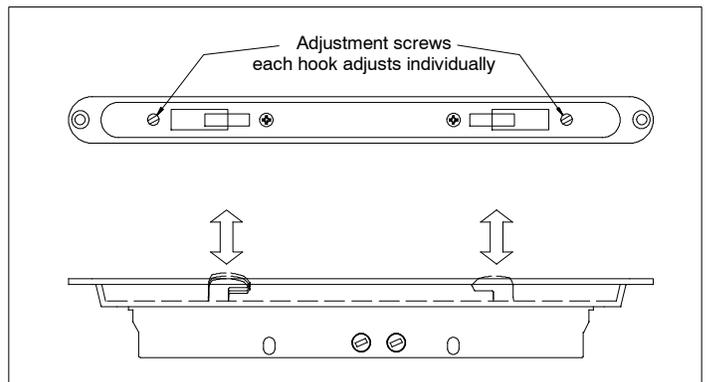

Figure 4: Adjusting hooks.
1. Adjust the hooks in or out as needed to engage the lock easily and minimize the amount the operator door will move in the locked position. 1/4 turn clockwise will extend the hooks, counterclockwise will bring the hooks in. See figure 4.